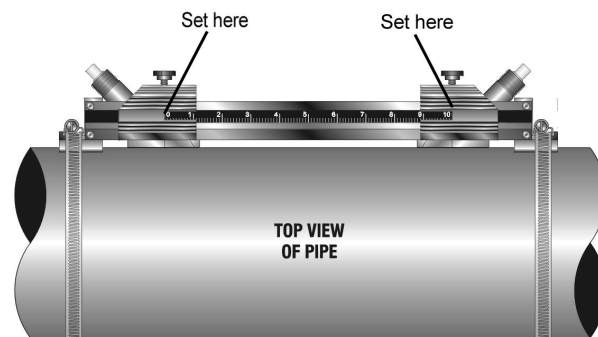

Figure 2.11 Transducer Space Measurement
4. Place the first transducer in between the mounting rails near the zero point on the mounting rail scale. Slide the transducer clamp over the transducer. Adjust the clamp/transducer such that the notch in the clamp aligns with zero on the scale. See **Figure 2.11**.